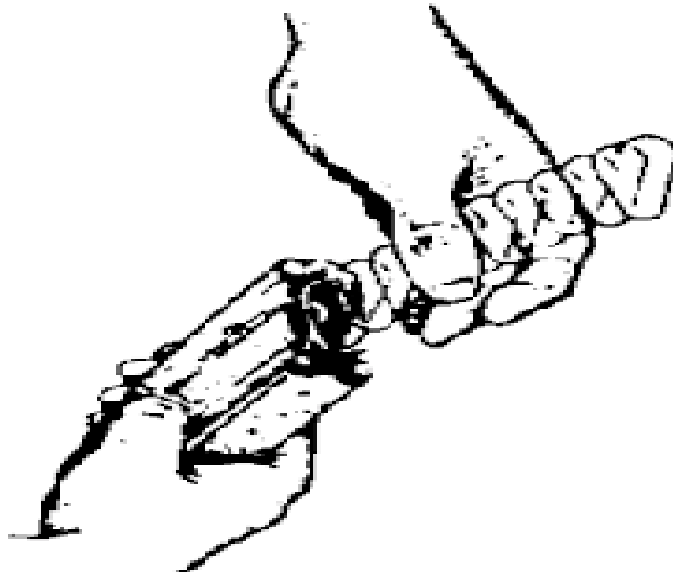

Figure E-42. Removing the magazine spring and the follower.
c. Remove the spring and follower by jiggling spring and follower (figure E-42).